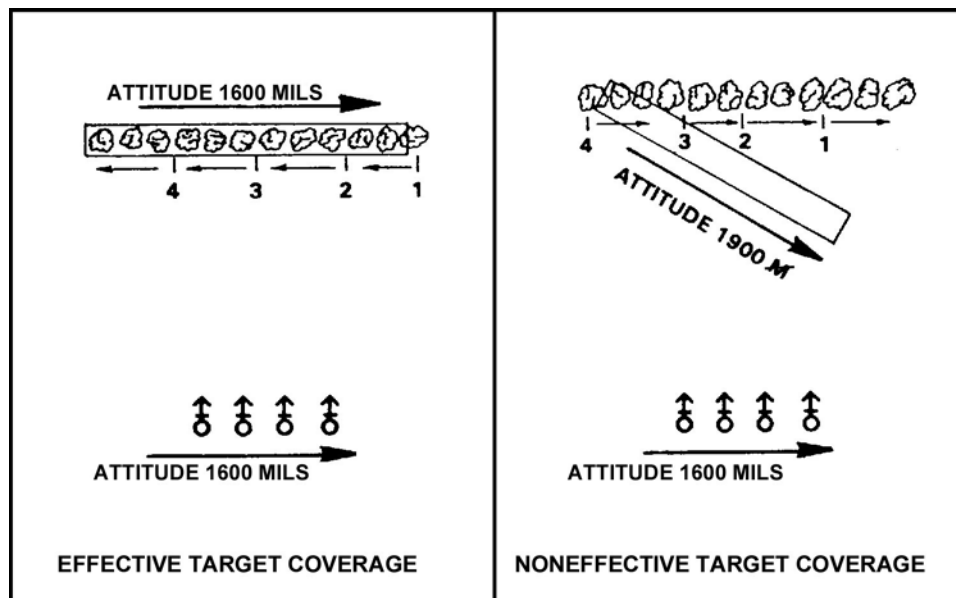

Figure 1. Target Coverage
- b. To effectively engage a target using traversing fire (Figure 1), the attitude of the target cannot be more than 100 mils different than the attitude of the mortar section.